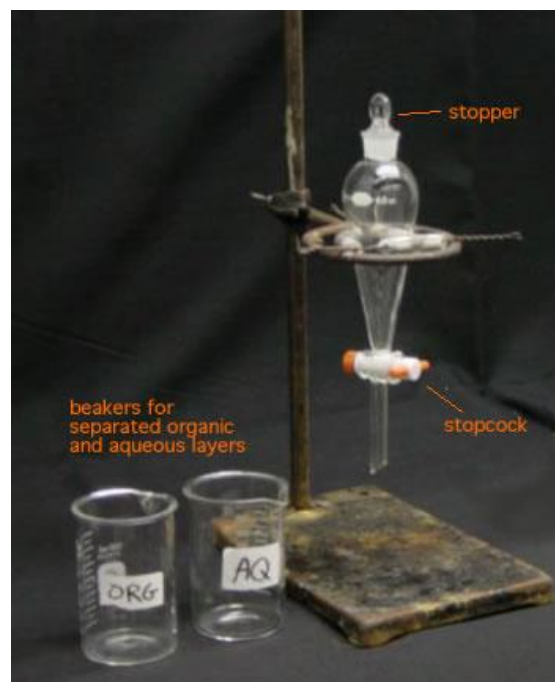

Figure 1. A separatory funnel in a ring clamp attached to a ring stand
1. Place the separatory funnel in a ring clamp attached to a ring stand or latticework (Figure 1).